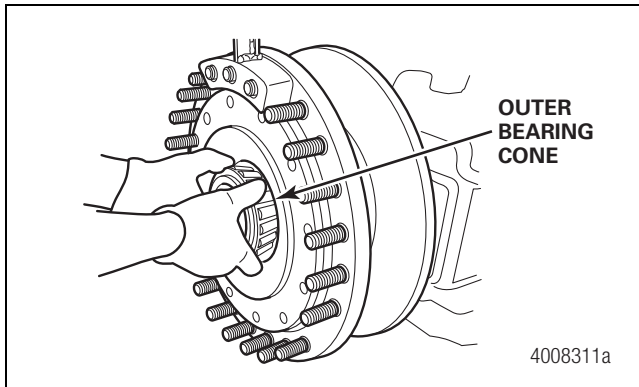

Figure 5.11
6. Remove the outer bearing cone from the spindle. Figure 5.11.